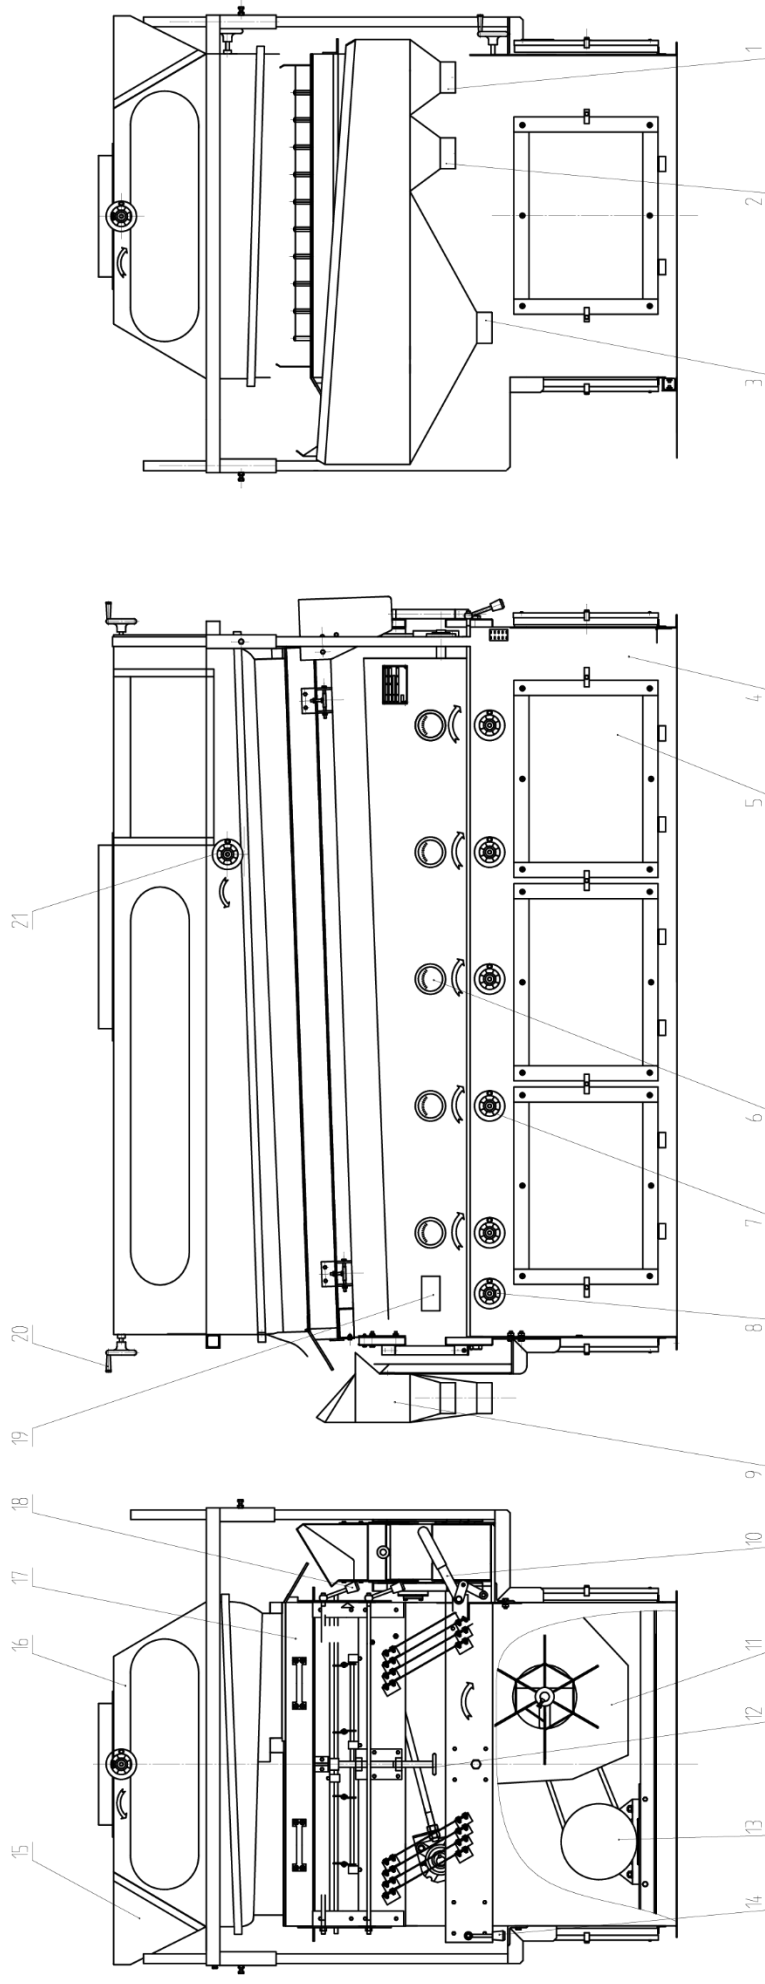

**Figure 1.**
Main structure and overall size please refer to Figure 1.
Gravity separator requires clean external air. When working, keep the air around the machine clean and do not use dusty waste gas from factory. Or supply the outdoor clean air to the machine by an air pipe, just remove one air filtering cover (item 5 on Figure 1) instead. The air pipe can be installed at the position of any filtering cover, but best position is the one closest to feeding area for best effect.